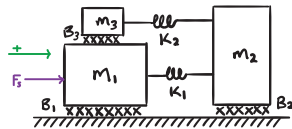

Figure 4.23. Schematic of a mechanical system.
3. The translational mechanical system of figure 4.23, force source, coordinate arrow in green.